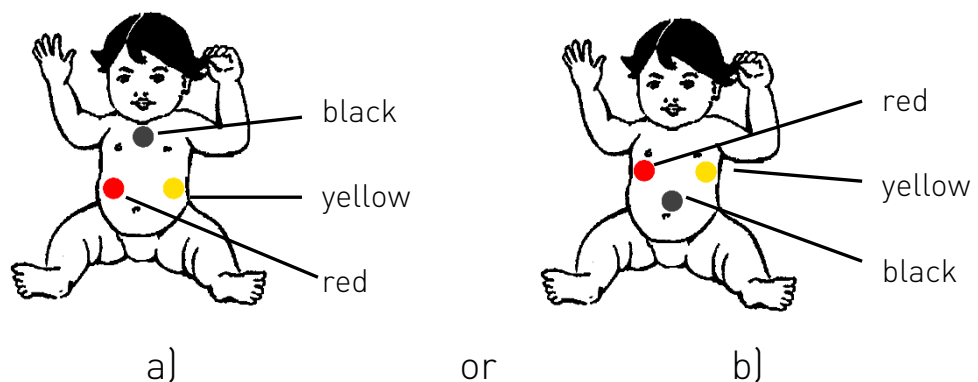
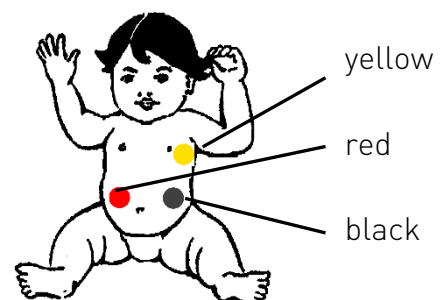

Fig. 34 Recommended Electrode Configurations
Fig. 35 Alternative Electrode Configuration
Start with the electrode configurations depicted in Fig. 34. Place the gel-coated side of the electrode on the chosen site and carefully press it several times for a good contact. First arrange:
- the electrodes on infants as depicted in Fig. 34 a)
- the electrodes on all other patients as depicted in Fig. 34 b)
If the electrode configuration depicted in Fig. 34 does not yield a good signal, try the alternative electrode configuration depicted in Fig. 35.